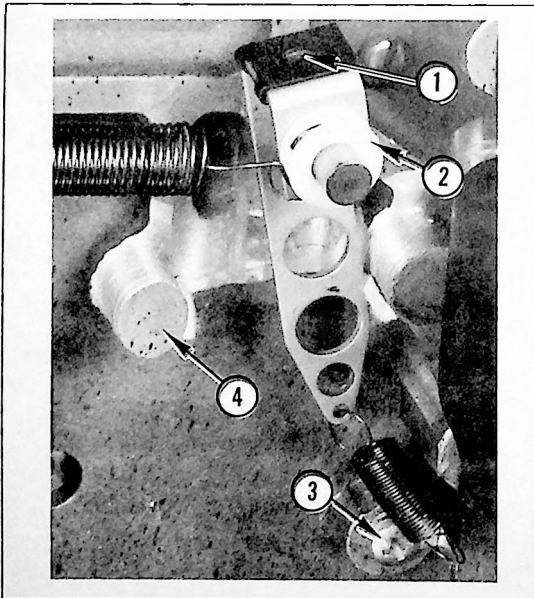

Figure 7-5
(Figure 7-5)
- c. Correct setting by loosening No. 8 setscrew (1) on tension arm. (See Figure 7-5.) Adjust dancer arm until correct setting as described in step (b) is attained. Tighten setscrew and continue with step (d).
- e. Remove damper (2) from the dancer arm post.
- g. Tension of the dancer arm should be 1/2 oz. (14 g) when initially starting to pull away from rest position, and 2-3/4 oz. (77 g) just before dancer arm reaches its stop post (4). If tension measurement is not correct, continue with step (h).
- h. At the rear of the transport, loosen the screw that secures the dancer spring (3) mounting bracket. Slowly turn the spring mounting bracket either clockwise (CW) or counterclockwise (CCW) to attain correct tension. Tighten screw.
- j. Replace damper (2).